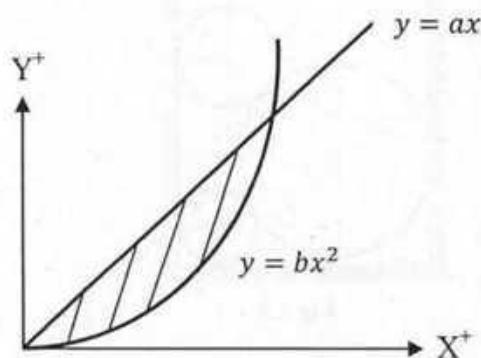

Fig :6
6. In the fig: 6 below, find the co-ordinates of the centroid of the area bounded by $y = ax$ and $y = bx^2$.